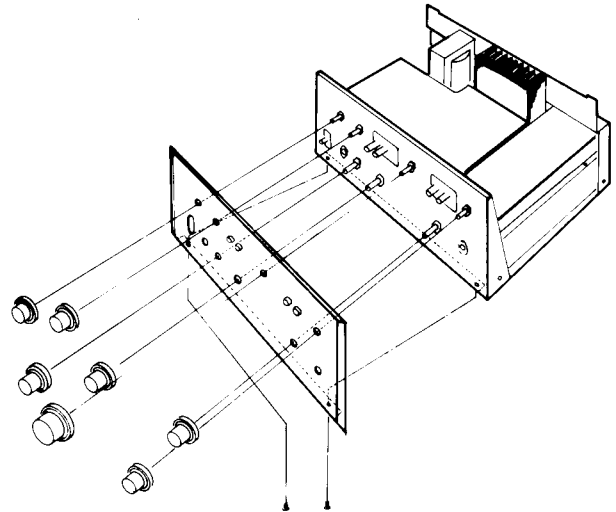

Fig. 5
3. Remove two screws as shown in Fig. 5, and remove front panel from chassis, with care to avoid damage.